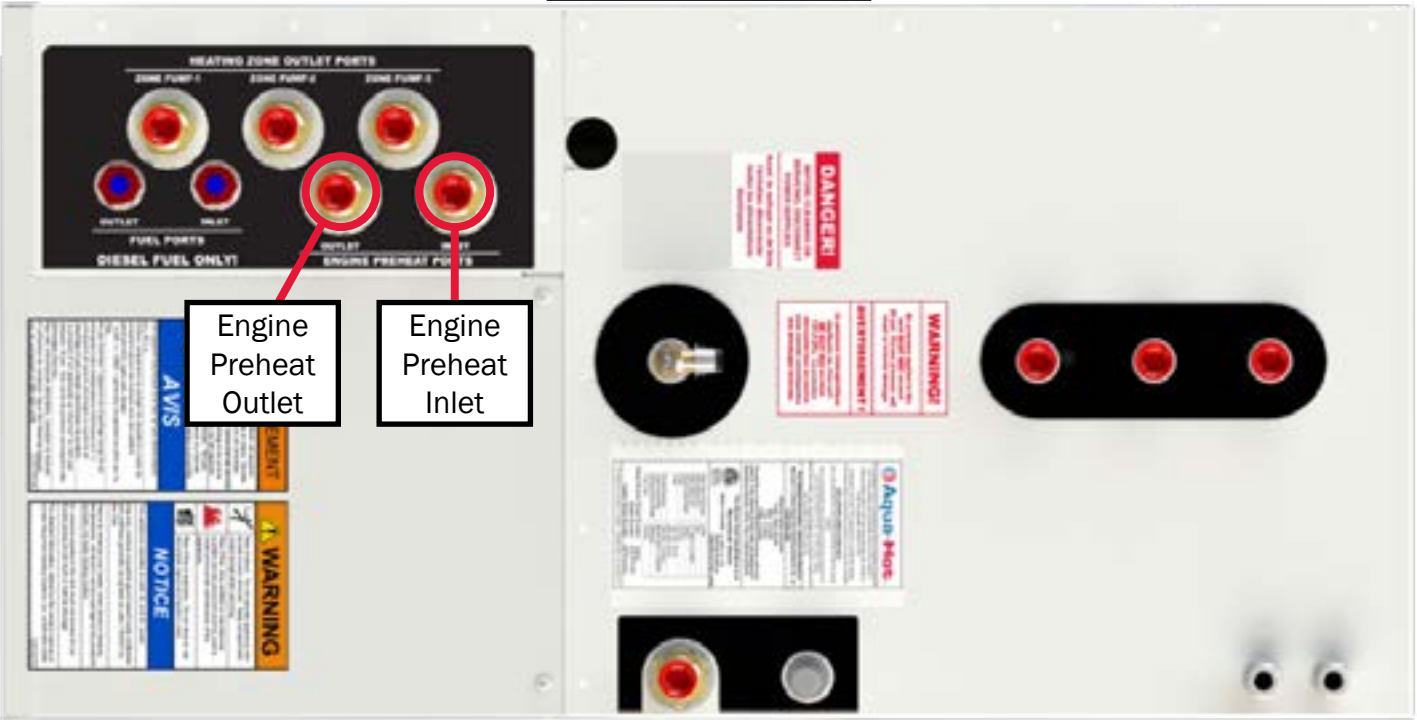

Figure 42
6. Install and tighten a plumbing fitting into the "inlet" port on the Aqua-Hot's engine preheating system. See Figure 42.